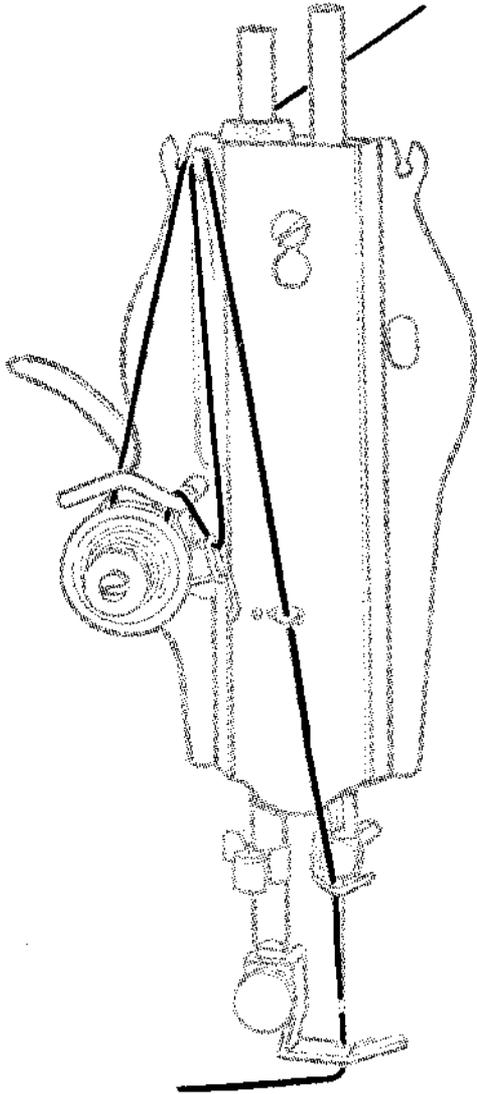

FIG. 18.
- Thread machine as shown in Fig. 18.